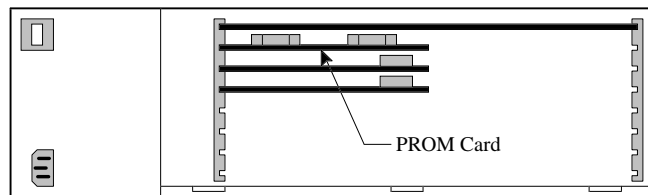

Figure 11 - PROM Card Location In Later VAX
4. Remove the PROM Card (see Figure 11) by pulling on the two tabs fastened to the front edge of the card. Once the card has disengaged the connector, use one hand to push up on the board above to help prevent the PROM Card from dragging as it is pulled out. (Observe standard handling practices for static sensitive components.)